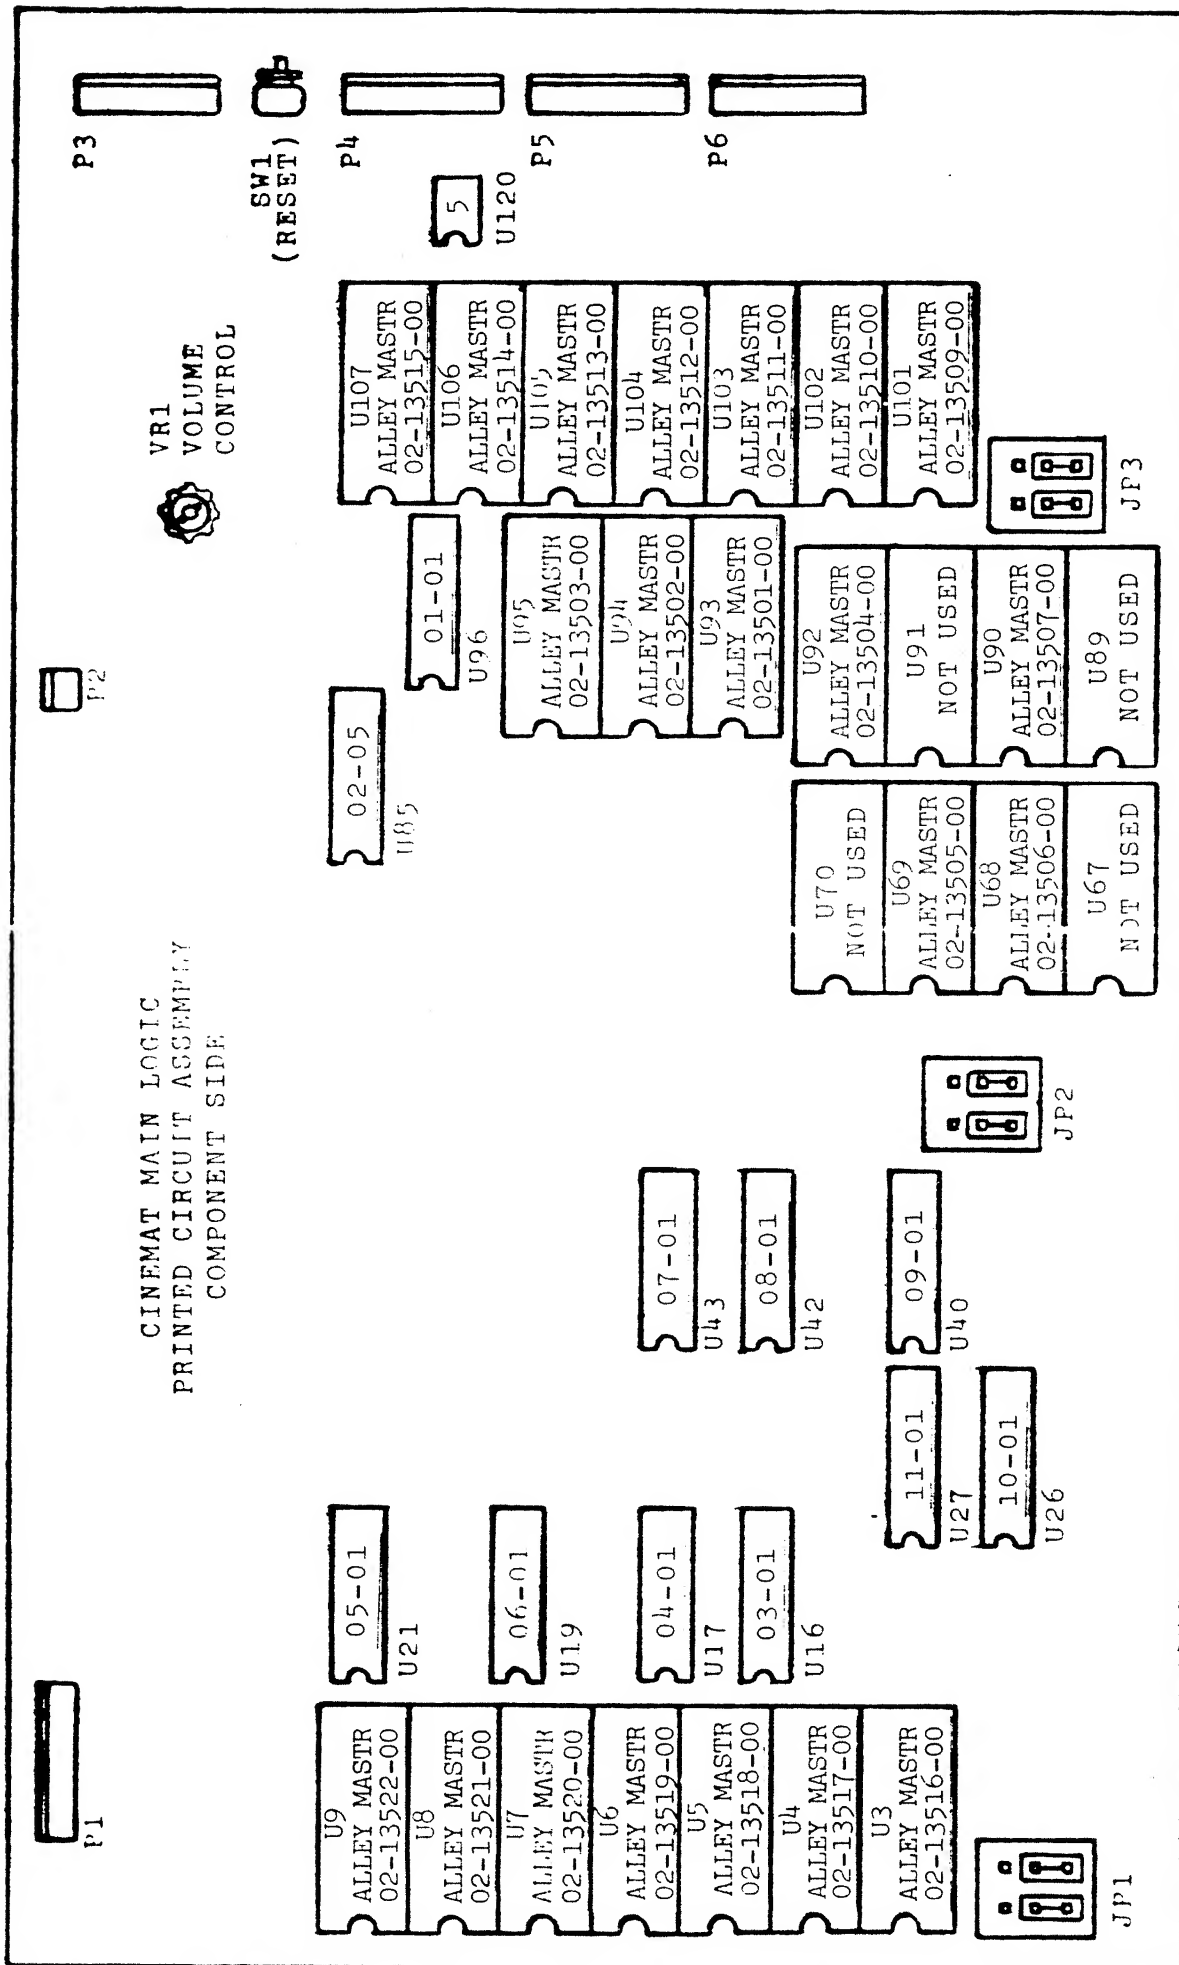

FIGURE 2
- 2) Install the 21 ALLEY MASTER eeproms in the Cinemat main logic board noting the chip location ("U" number) printed on each chip and referring to Figure 2. Noting the location of pin 1 of both the eeprom and socket, plug each eeprom into the socket indicated. Be sure all eeprom pins are aligned and the eeproms are pressed firmly in place.